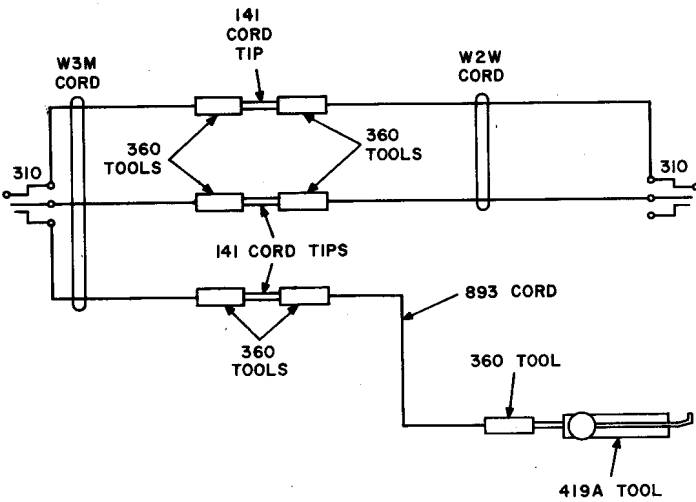

Fig. 1—Test Cord Assembly
2.14 Test cord assembly shown in Fig. 1, consisting of a W3M cord, 6 feet long, equipped with a 310 plug and three 360 tools (3W4A cord); a W2W cord, 6 feet long equipped with a 310 plug and two 360 tools (2W17A cord); an 893 cord, 6 feet long, with a 360 tool at each end (W13B cord); a 419A tool; and three 141 cord tips [for use in connecting line finder test set to line finder test
20b	If test jack is not located on line finder— Insert plug of 6-foot W3M cord, as shown in Fig. 1, into test set LF jack.